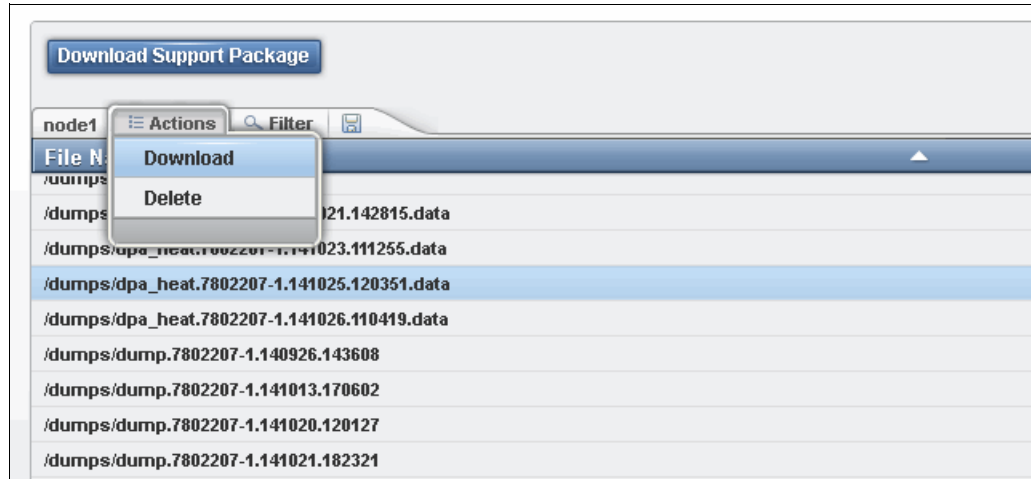

Figure 9-27 Download dpa_heat file
- To download the statistics file, select the file for the most representative period and click **Actions** → **Download** as shown in Figure 9-27. Usually this is the latest file.